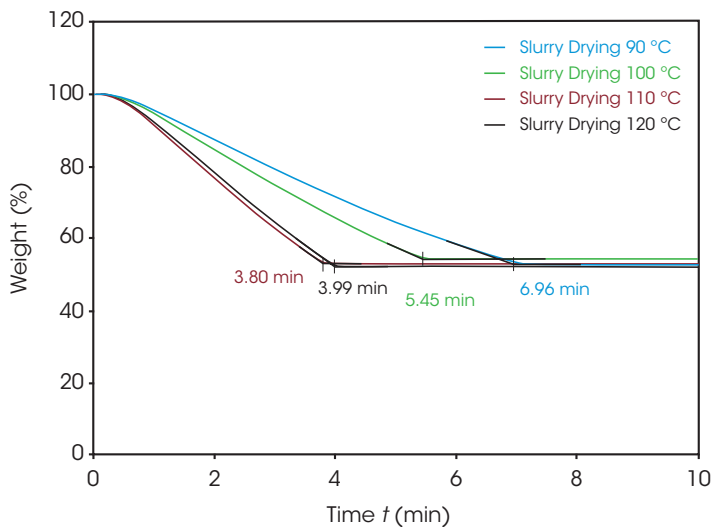

Figure 2. Drying time of the electrode slurry
Figure 2 shows the drying time required for the slurry at different temperatures. Drying kinetics can also be determined from the data (7). Table 1 summarizes the minimum required drying time at different drying temperatures. The results show that the drying time can be reduced from 6.96 min at 90 °C to 3.80 min at a higher temperature of 120 °C.